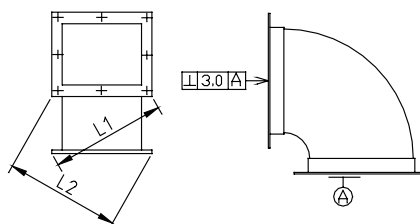

Figure 10
- For flanges at two ends of the bend of the rectangular duct, the squareness tolerance should be 3.0 (90°), as shown in figure 10.